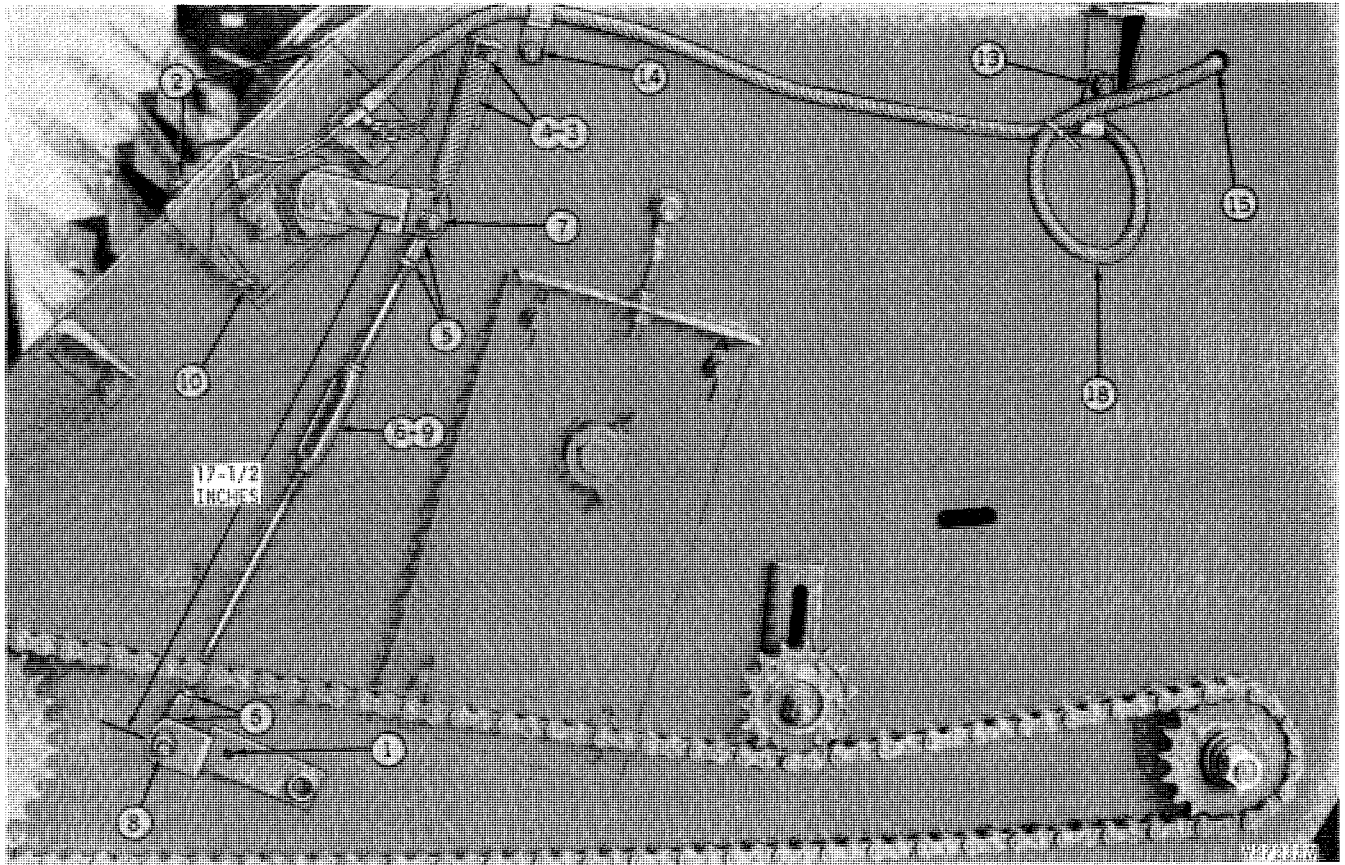

Fig. 114—Installing Header Height Control Parts
1. Remove pin holding arm in fixed position (Fig. 114). Retain pin for future use to check setting of actuating rod.
2. Using existing holes, attach switch mounting plate with two 5/16 x 3/4-inch cap screws, lock washers, and nuts (Fig. 114).
3. Using existing holes, attach spring bracket to end sheet with two 5/16 x 3/4-inch round head bolts, 11/32 x 11/16 x .060-inch flat washers, lock washers, and nuts (Fig. 114). Push spring bracket upward in slots as far as possible, before tightening hardware.
4. Place spring through holes in arm and spring bracket as shown (Fig. 114).
5. Thread left-hand and right-hand push rod links into ball joints as far as possible and lock with 5/16-inch jam nuts (Fig. 114).
6. Thread jam nut, then turnbuckle, onto (short) right-hand push rod link. Then thread turnbuckle onto (long) left-hand push rod link (Fig. 114).
7. Insert ball joint with (short) right-hand push rod link through upper arm and secure with 3/8-inch lock washer and nut (Fig. 114).
8. Insert ball joint with (long) left-hand push rod link through lower actuator arm and secure with 3/8-inch lock washer and nut (Fig. 114).
9. Adjust turnbuckle until a dimension of 17-1/2 inches (445 mm) is reached from center of each nut (Fig. 114).
10. Loosen wing nut and rotate lower switch adjusting bracket as far left as possible (Fig. 114). Tighten wing nut.
13. Install "J" clamp on side sheet, using existing hardware (Fig. 114).
14. Install "J" clamp on side sheet, using 5/16 x 3/4-inch round head bolt, lock washer, and nut (Fig. 114).
18. Move extra conduit back to area shown and secure two side "J" clamps (Fig. 114).